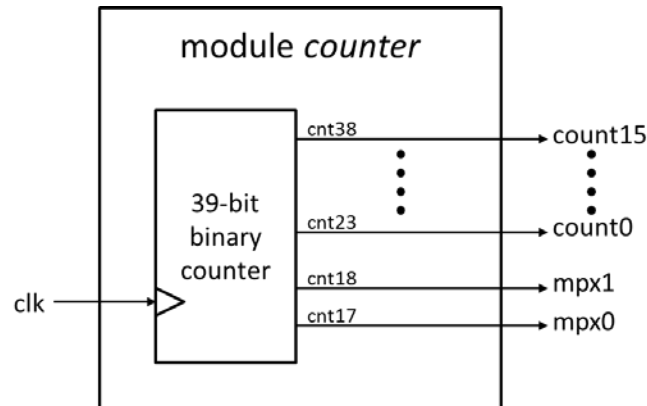

Figure 2 Modified *counter* module
- Expand the *hexcount* hierarchy in the *Hierarchy* window and open up the source code to the *counter* module. Modify the *counter* module to generate a 16-bit *count* value using bits 23~38 of the binary counter as shown in Figure 2. We also create a second output